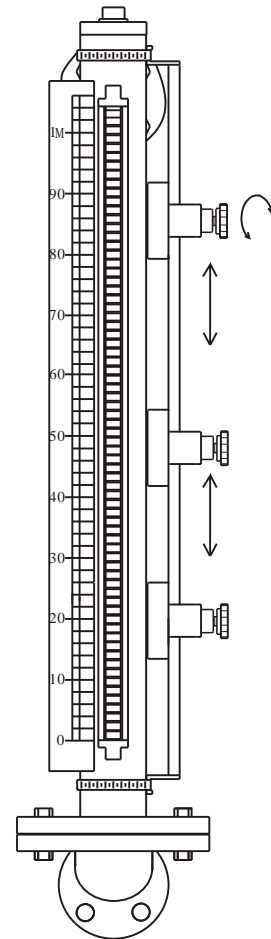

fig. 3
1. The magnetic switch (EFB-14□□ series) is to be placed on a riding rod, then fasten the riding rod to the chamber with two hose clamps. (see page 18 - fig.3)
10. See fig.3 for the installation direction of mounting holes